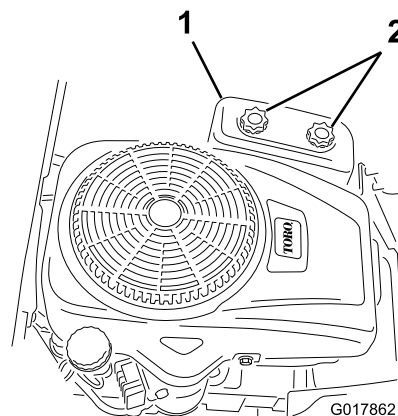

Figure 27
4. Remove the air-cleaner cover by unscrewing the 2 knobs (Figure 27).
3. Install the air-cleaner cover, and tighten the 2 knobs (Figure 27).